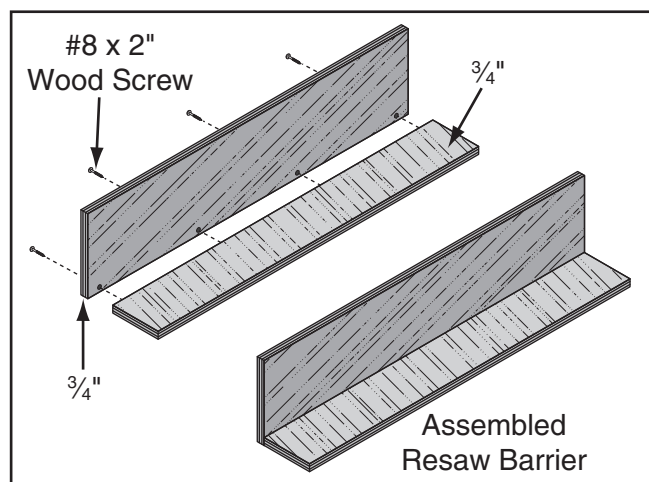

Figure 66. Resaw barrier.
3. Glue end of 3" board, clamp boards at a 90° angle with larger board in vertical position, as shown in **Figure 66**, then fasten together with wood screws.